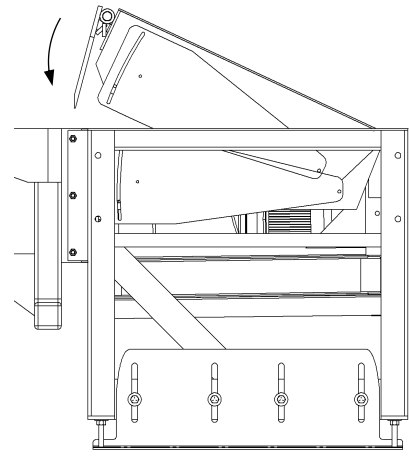

Figure 7: Storing Leveler
2. Release the UP button. The leveler will lower to its stored position and rest in the lip keepers (Figure 7).